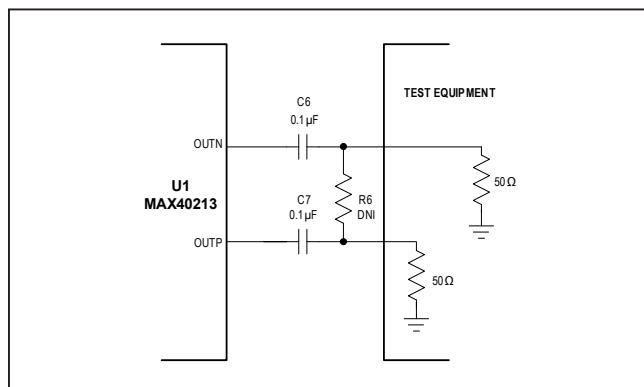

Figure 1. Evaluation Circuit 1—50Ω Input Termination on Equipment
- 1) Evaluation Circuit 1 (see Figure 1): Connect a +3.3V supply and ground to VCC1 connector and GND1 return pad of the EV kit respectively. Disable the output of the power supply.